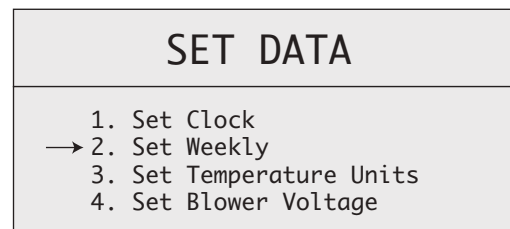

Figure 22: Set Data
1. Press and hold the **ENTER**  button (11, Fig. 17) until the “Set Data” menu appears on the screen. Using the **SCROLL DOWN** button (10, Fig. 17), select “Set Weekly.” Press **ENTER**. This will take you into the “Weekly Schedule” screen. **SEE FIGURE 22.**